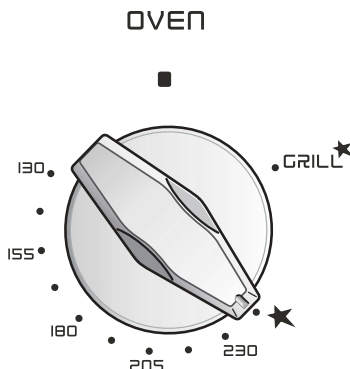

Fig. 11
2) Lightly press and turn the thermostat knob anti-clockwise to max position “★” (fig. 11).